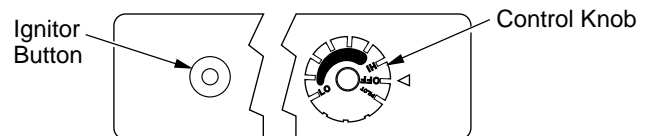

Figure 29 - Control Knob and Ignitor Button
- Wait five (5) minutes to clear out any gas. Then smell for gas, including near the floor. If you smell gas, **STOP!** Follow "B" in the safety information above. If you don't smell gas, go to the next step.
- Turn control knob counterclockwise  to the PILOT position. Press in control knob for five (5) seconds (see Figure 29).
**Note:** If pilot goes out, repeat steps 3 through 7. This heater has a safety interlock system. Wait one (1) minute for system to reset before lighting pilot again.